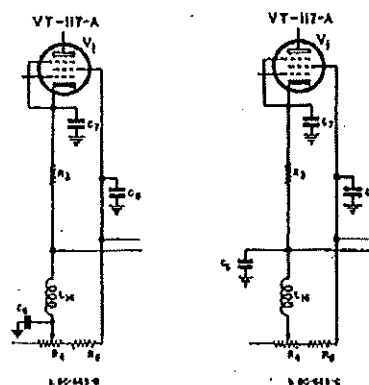

Fig. 16
(d) In BC-669-B r-f choke L_{16} is connected between resistor R_4 and resistor R_3 to provide, in conjunction with capacitor C_6 (connected from the movable tap of R_4 to ground), additional filtering of noise produced by R_4 . (See Fig. 16 a.)
(e) In BC-669-C (also BC-669-B on Order No. 32780-PHILA-43) C_6 is connected between r-f choke L_{16} and resistor R_3 , for the same purpose. (See figure 16 b.)
- (1) See Fig. 16 for change in BC-669-B, and BC-669-C.
(5) Meters provided are antenna current meter M_1 and milliammeter M_2 . (See figures 16 and 18.)